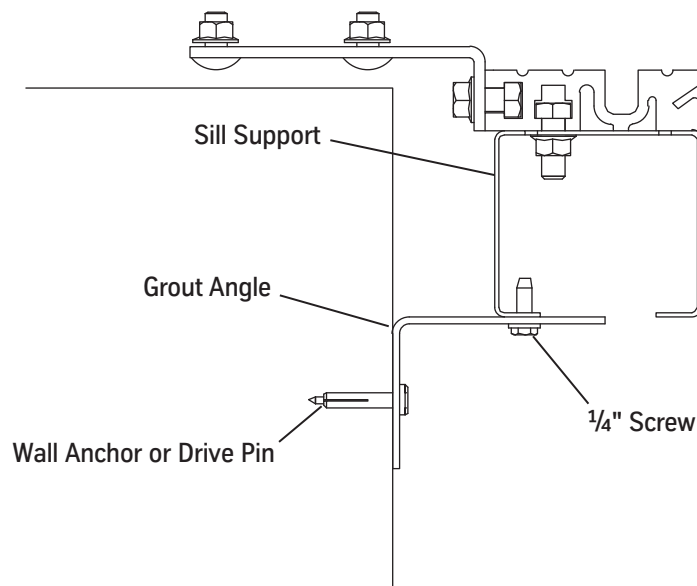

Figure 57 - Grout Angle Installation
1. Use self-tapping screws to install the grout angle on the bottom of the sill support and also tight against the hoistway wall. See Figure 57.